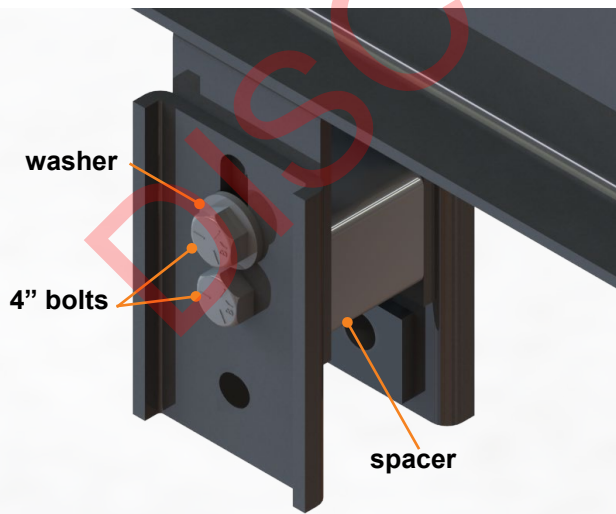
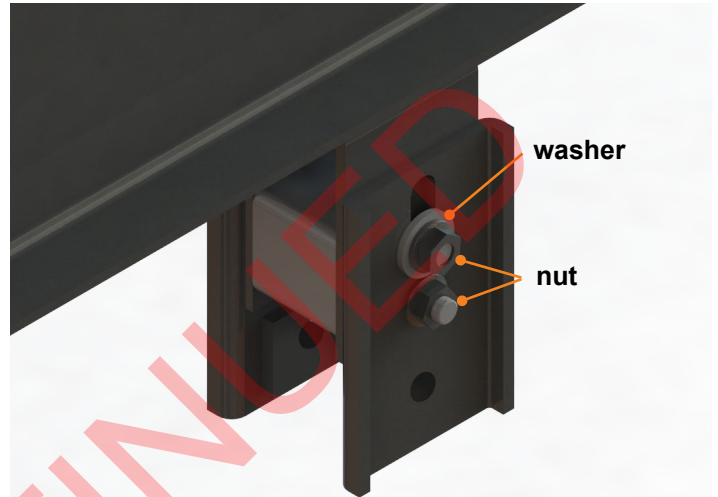

Fig.3
Fig.4
2. Align the center hole of the plate with the bottom hole of the hanger and insert a $\frac{9}{16}$ " x 4" bolt through the plates, the spacer and the hanger (**Fig. 3**). Torque the nut to 70-80 ft-lbs.
3. Use a $\frac{9}{16}$ " x 4" bolt and a washer to go through the upper slot, the hanger and the spacer. Install a washer and a nut on the back side of the hanger and plate assembly (**Fig. 3 and Fig. 4**).